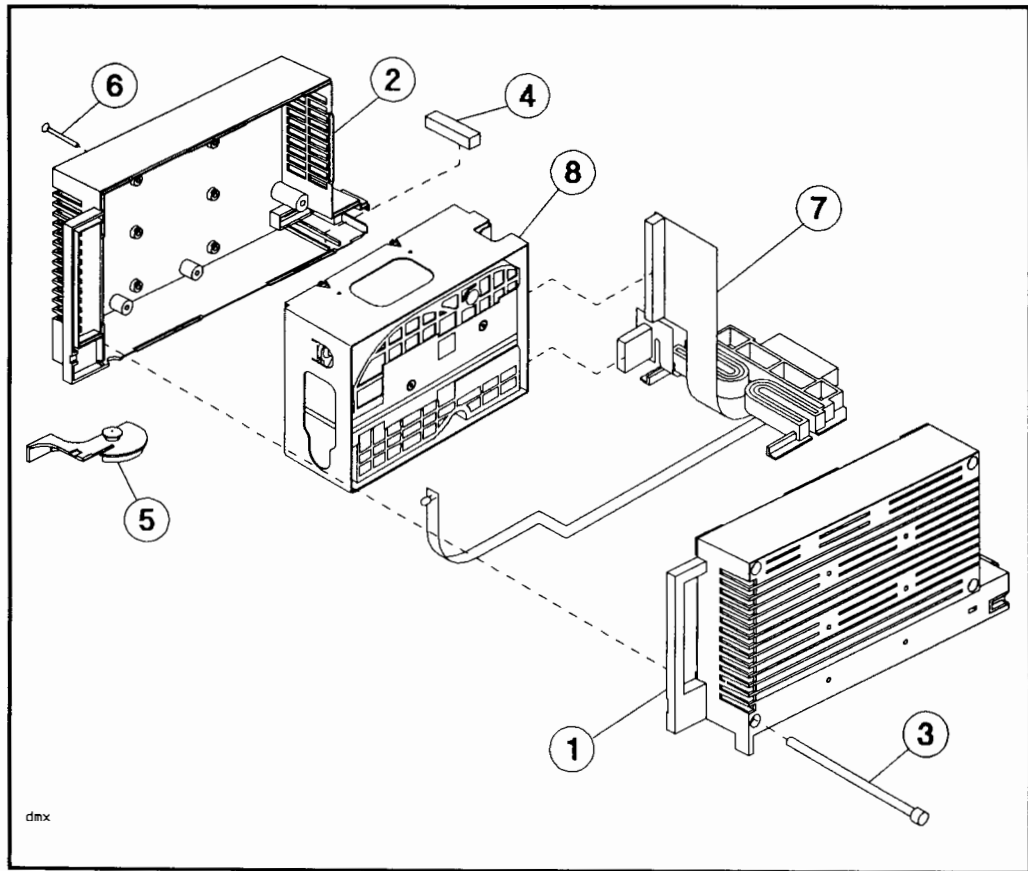

Figure 7-3. Disk Module Exploded View
- Replaceable parts for the disk drive module are listed in Table 7-3 and shown in Figure 7-3.